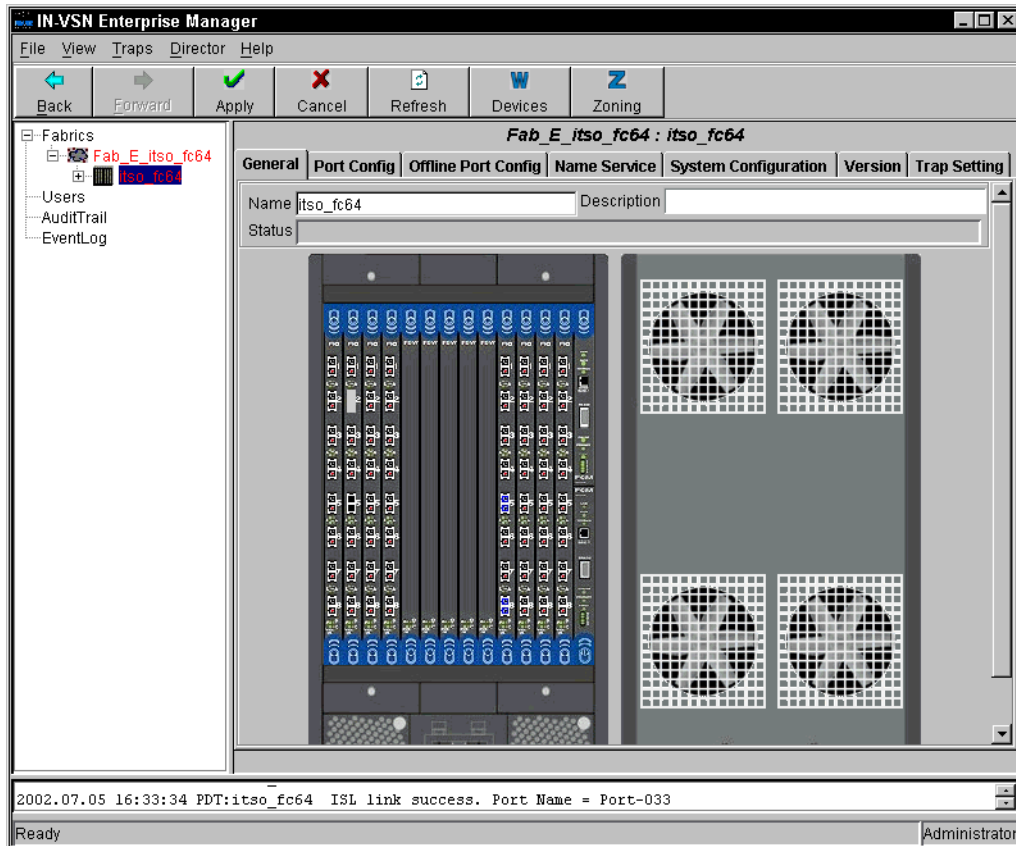

Figure A-30 IN-VSN: Director view in E Port mode
- Once the configuration process is finished, you can return to the director view. You should wait a minute or so after the end of the process before performing any operation on the director. The IN-VSN tabs are now different as shown in Figure A-30.